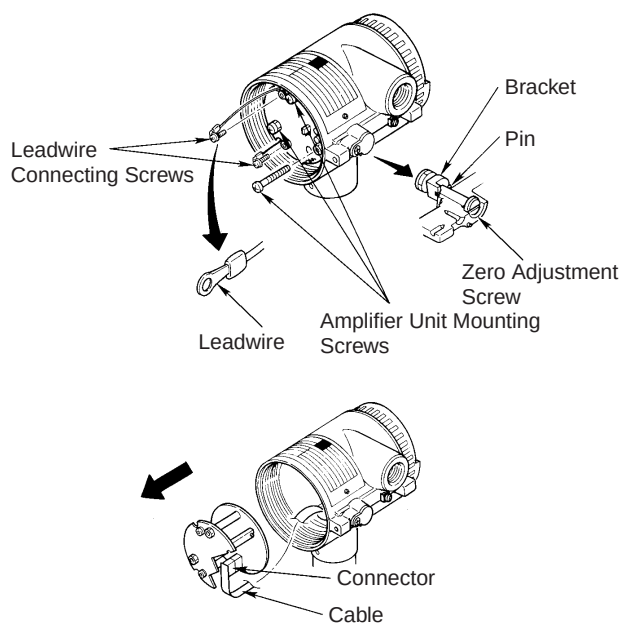

Figure 7.3 Removing Amplifier Unit
- 2) Disconnect the “+” and “–” leadwires (See Figure 7.3).
- 3) Use a flat-blade screwdriver to turn the zero adjustment until the zero adjustment screw bracket is in the position shown in Figure 7.3.